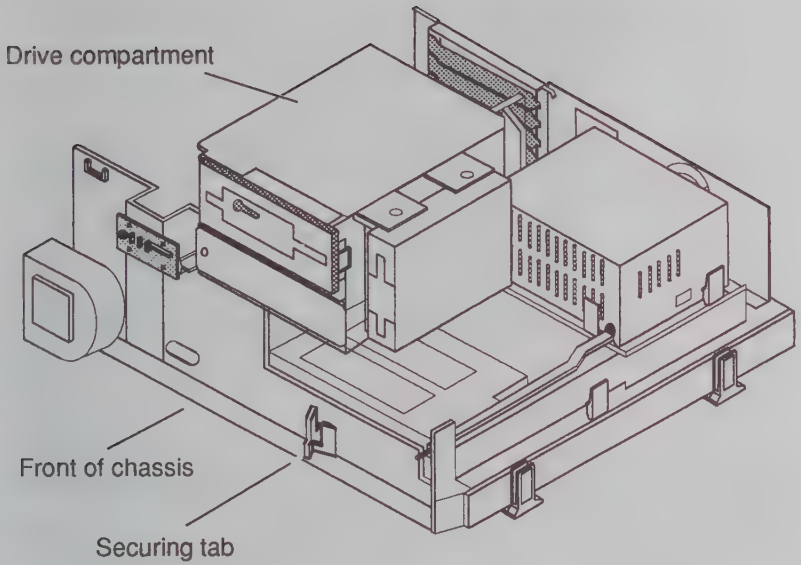

Figure 1 Removing the Drive Compartment
2. Grasp the front of the drive compartment and with your other hand press the securing tab (Figure 1) to the right; then slide the drive compartment out of its enclosure.
3. Lift the drive compartment to remove it from the chassis. See Figure 1.